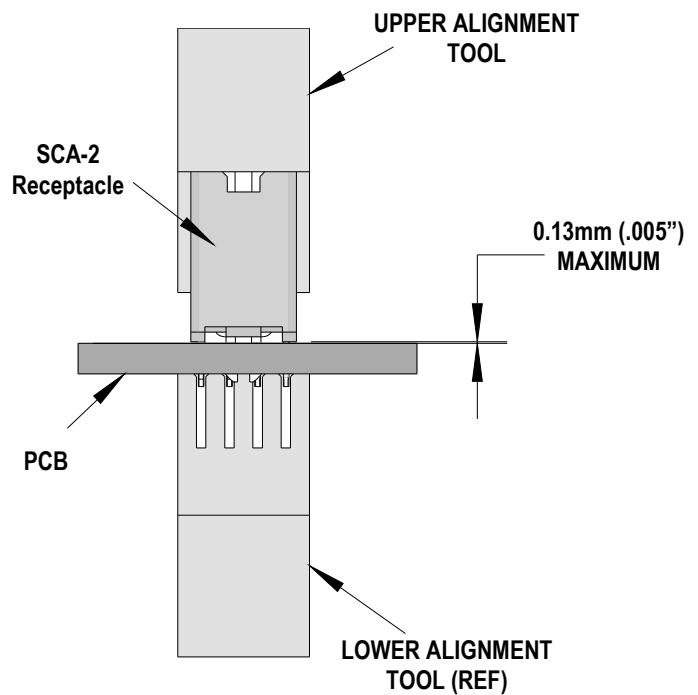

Figure 2: INSERTION DETAILS
3. Using the Upper Alignment Tool and a suitable press, insert the receptacle in the PCB until there is less than 0.005" (0.13mm) clearance between the bottom of the receptacle housing and the surface of the PCB. See Figure 2.